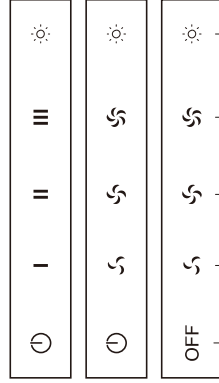
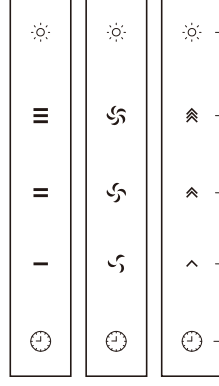

Fig. 16
Fig. 17
- (1) Push the right middle corner on the glass of the decoration door (Fig.A), the decoration door will open (Fig.B).
- (2) Take out the aluminum filter (Fig.C);
- (3) Push the clips on the charcoal filters and then pull back, then the charcoal filters can be taken down (Fig.D).
**•FUNCTION KEYS: (Fig.16) •FUNCTION KEYS: (Fig.17)**